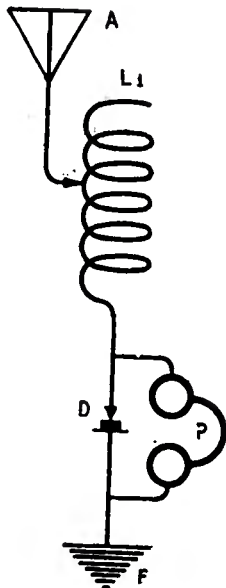

Figure 122
- (1) Figure 122. To outline the circuits of a simple wireless receiver.
In figure 122, crystal rectifier D connected in series with the antenna circuit A, L-1, E, is shunted by the head telephone P. This is known as the plain aerial connection.
The apparatus in figure 122 functions as follows: A train of electromagnetic waves radiated by the transmitter induces a radio frequency alternating current in the aerial circuit A, L-1, E. This current will flow freely through the crystal in one direction, but will be opposed in the opposite direction. In one direction, let us say, the current passes from the earth upward through the crystal and then places a charge on the aerial wires, but the return current is opposed; hence the rectified oscillations for each spark of the transmitter accumulate a charge on the antenna wires which at the condenser C-2 through the circuit D, P, C-1 being oscillatory is rectified by D and a charge for each group of oscillations accumulates in the condenser C-1. kind does not possess the tuning qualities of the coupled circuits.